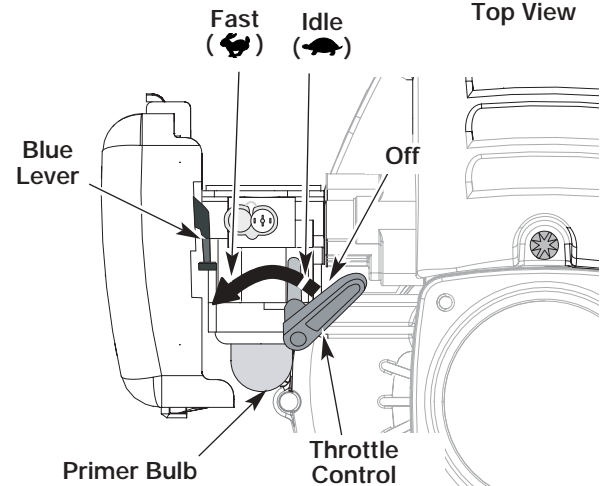
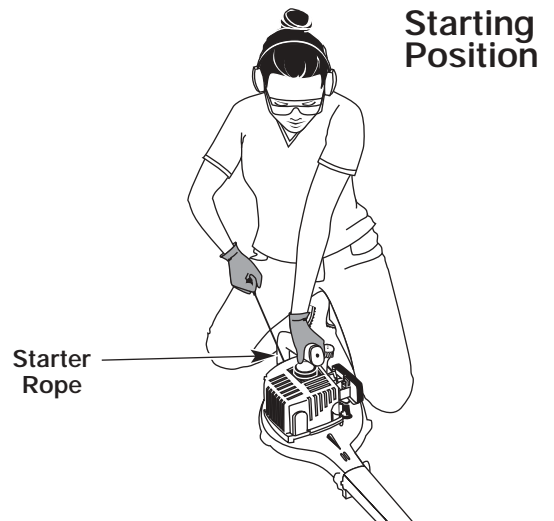

Fig. 2
Fig. 4
WARNING: Avoid accidental starting. Make sure you are in the starting position when pulling the starter rope (Fig. 4). To avoid serious injury, the operator and unit must be in a stable position while starting.
2. Fully press and release the primer bulb 10 times, slowly. Some amount of **fuel should be visible in the primer bulb** (Fig. 2) and fuel lines. If you can't see fuel in the bulb, press and release the bulb as many times as it takes before you can see fuel in it.
4. Place the unit in the starting position (Fig. 4). Move the throttle control to the fast position (↶) (Fig. 2).
1. To turn off the blower, move the throttle control lever all the way to the right, past the idle position (↷) until it clicks. Make sure you move the lever into the furthest right detent in order to turn the unit off (Fig. 2).